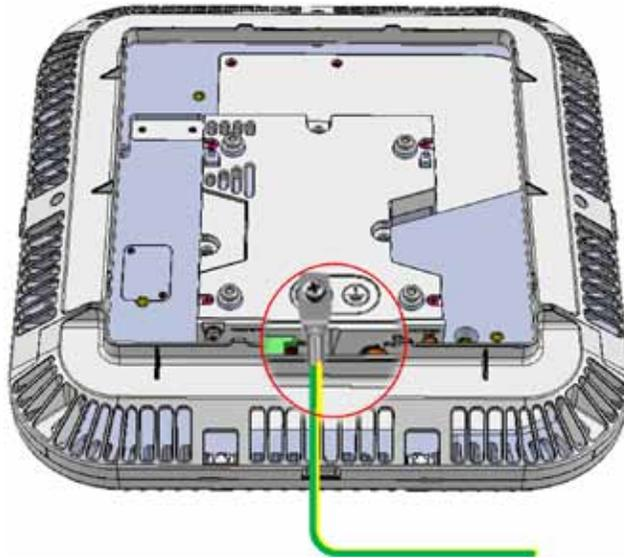

Figure 5-63. Grounding Bolt Location
2. Connect the earth ground to the RAU using one of the provided 8-32X3/8 screws. See grounding bolt location circled in Figure 5-63.